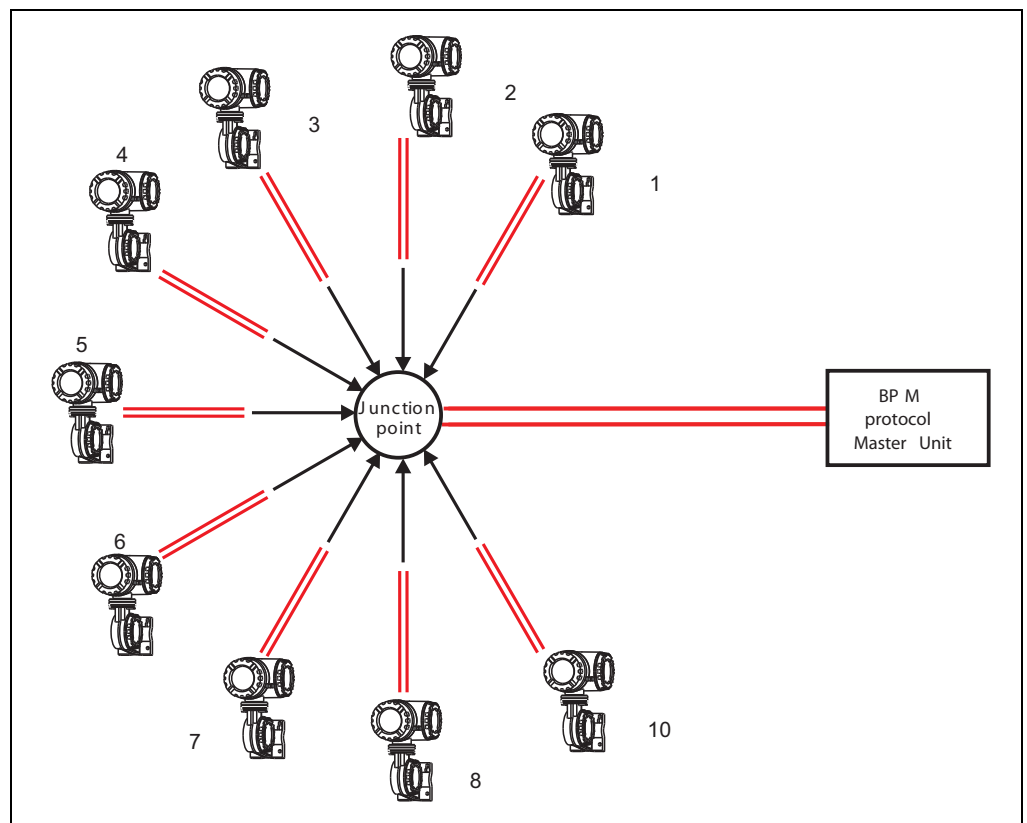

Figure 3-1: Example of a Star Topology Installation
- The preferred cable topology for better performance is a star topology as shown in Figure 3-1.